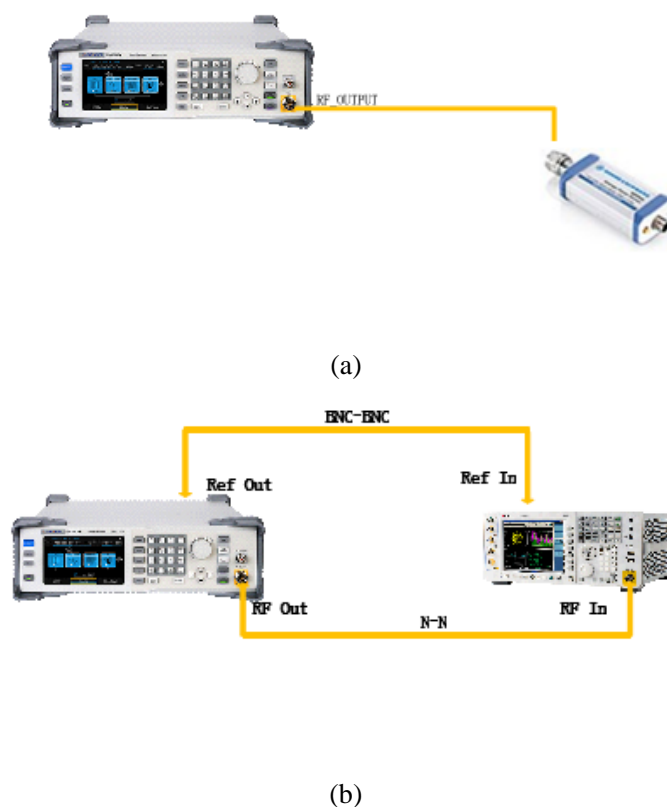

Figure 3-1 Absolute amplitude accuracy connections
1. Connect the output terminal of the SSG3000X with the power meter, as shown in Figure 3-1 (a).
5. Connect the output terminal of the SSG3000X with the input terminal of the signal analyzer using dual-N cable as shown in Figure 3-1 (b).
10. Keep the connection shown in Figure 3-1 (b) unchanged, press **Mode Preset** to restore the signal analyzer to its factory setting and set the output amplitude of the SSG3000X according to Table 2-3.